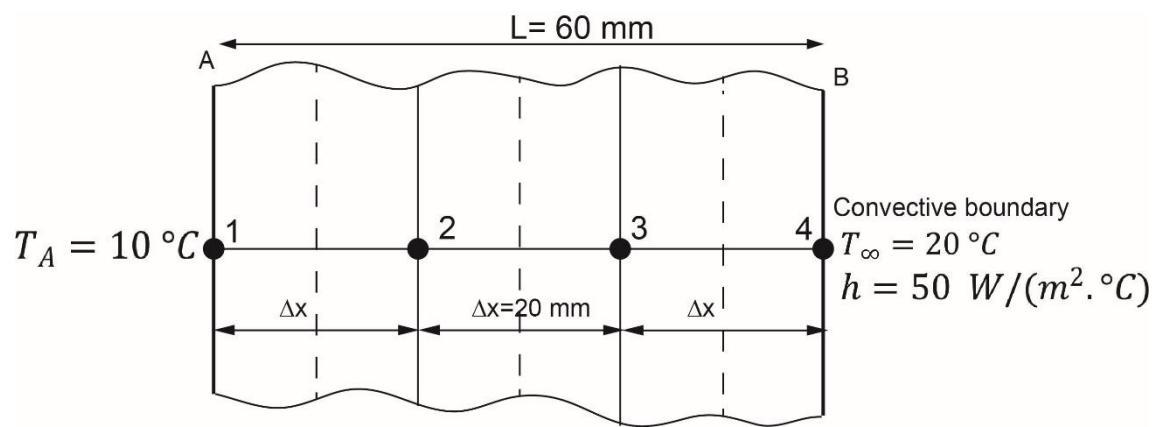

Figure Q.1
1. **Figure Q.1** shows a two-dimensional cross-section of a plate. The left side of this plate is at a temperature of T_A ($^{\circ}\text{C}$). The right side is exposed to convective heat transfer, with a convective heat transfer coefficient of h ($\text{W}/(\text{m}^2 \text{ } ^{\circ}\text{C})$) and an ambient temperature of T_{∞} ($^{\circ}\text{C}$). The plate is also subjected to internal heat generation at a rate of g (W/m^3). Heat transfer in this one-dimensional situation is governed by:
b) Use the energy balance method with a simple grid ($\Delta x = 20 \text{ mm}$) as shown in the **Figure Q.1**, to formulate numerical equations for obtaining temperature values at the nodes shown. [6 marks]